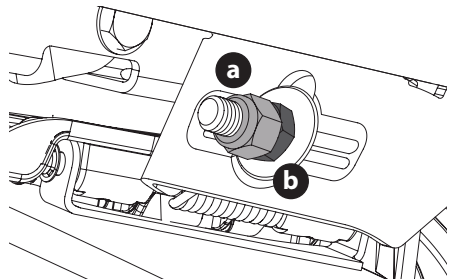

Figure 40
5. To **raise** the front of the deck, remove the end cap, loosen the outer jam nut (a) then tighten (thread inward) the inner nut (b) against the front hanger bracket (Figure 40). When proper adjustment is achieved, re-tighten the outer jam nut (a) to 57 ft-lbs (77 N-m) and replace the end cap.
- To **lower** the front of the deck, remove the end cap, loosen the outer jam nut (a) then loosen (thread outward) the inner nut (b), away from the front hanger bracket (Figure 40 on page 28). When proper adjustment is achieved, re-tighten the outer jam nut (a) to 57 ft-lbs (77 N-m) and replace the end cap.